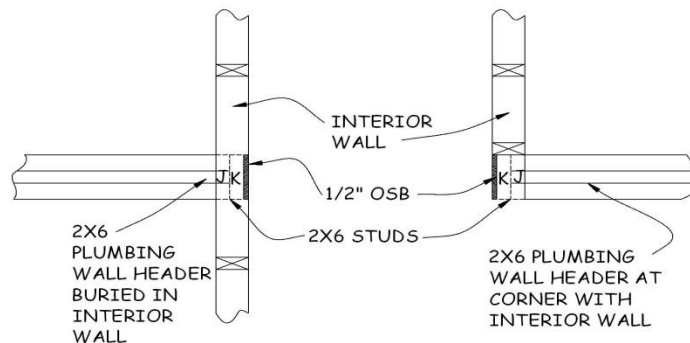

Figure 3-9. Plumbing Wall Configuration.
- b. A 2x6 sliding closet wall intersecting a 2x4 wall at 90°: The intersection of the closet wall framing with the 2x4 interior wall requires a special header configuration (see Figure 3-9). If the two walls create an “L”, butt the side of the 2x6 wall against the end of the 2x4 wall (this makes the 2x6 wall the “long” or overlapping wall). If they create a “T” (where the 2x6 wall butts up to the 2x4 wall), extend the closet header into the 2x4 wall. In both cases, lay out the Jack stud flush with the closet side of the 2x4 wall. Adjoining that will be the King stud and ½” of OSB, creating a 3½”-wide block equal in width to the 2x4 interior wall.